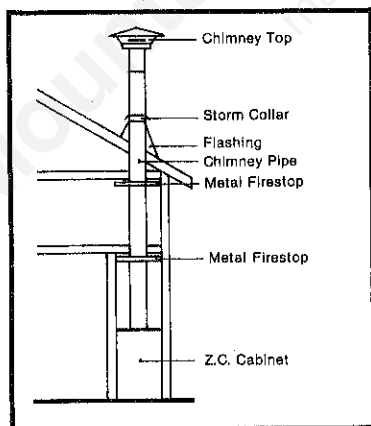
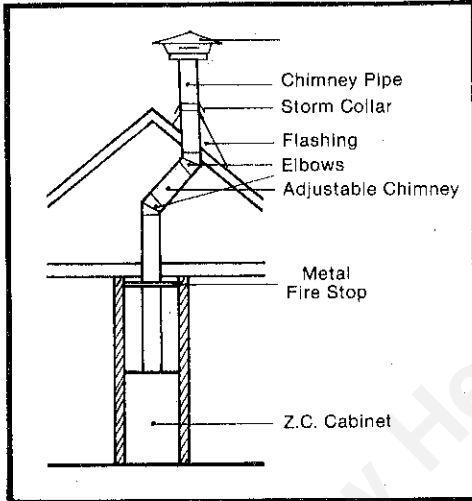

FIGURE 1 Through Ceiling & Normal Pitch Roof
FIGURE 3 OFFSET TO CLEAR OBSTRUCTION
- a. Straight up through ceiling: (See Figures 1 and 2). This is a simple installation normally used when installing a BUCKMATE inside an existing room, and in some cases, in new construction. Refer to Figure 3 if an offset to clear an obstruction is needed.
Except as noted, the BUCKMATE can be installed almost anywhere you desire. There are, however, a few clearance and framing restrictions that must be followed. See figure 1 and 2 to make sure that these clearance restrictions are met. It is much wiser to place your BUCKMATE correctly at the start of the installation than to be forced to relocate it after much of the work is done.
- Lay out the location on the floor and construct base (see Figure 1).
Base for BUCKMATE must be level with or slightly higher than finished hearth height - dimension (A) Figure 1. Front of BUCKMATE cabinet must be recessed 2½" from finished wall.
FIGURE 1-B: Safety shields for brick or rock hearth (Note: Cut vertical shield to fit installation height as needed. Use 26 Ga. Minimum metal being sure to cover any combustibles on the base.)
2. Set BUCKMATE unit in place and attach safety shield to unit as shown in Figure 1-A and 1-B. You must place a non-combustible material 3/8" thick millboard or equivalent .084K factor or 2" of masonry (brick or rock) over this area as a minimum.